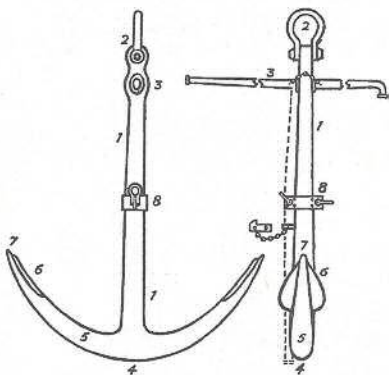

FIG. 1
(1) ADMIRALTY PATTERN (See Fig. 1)